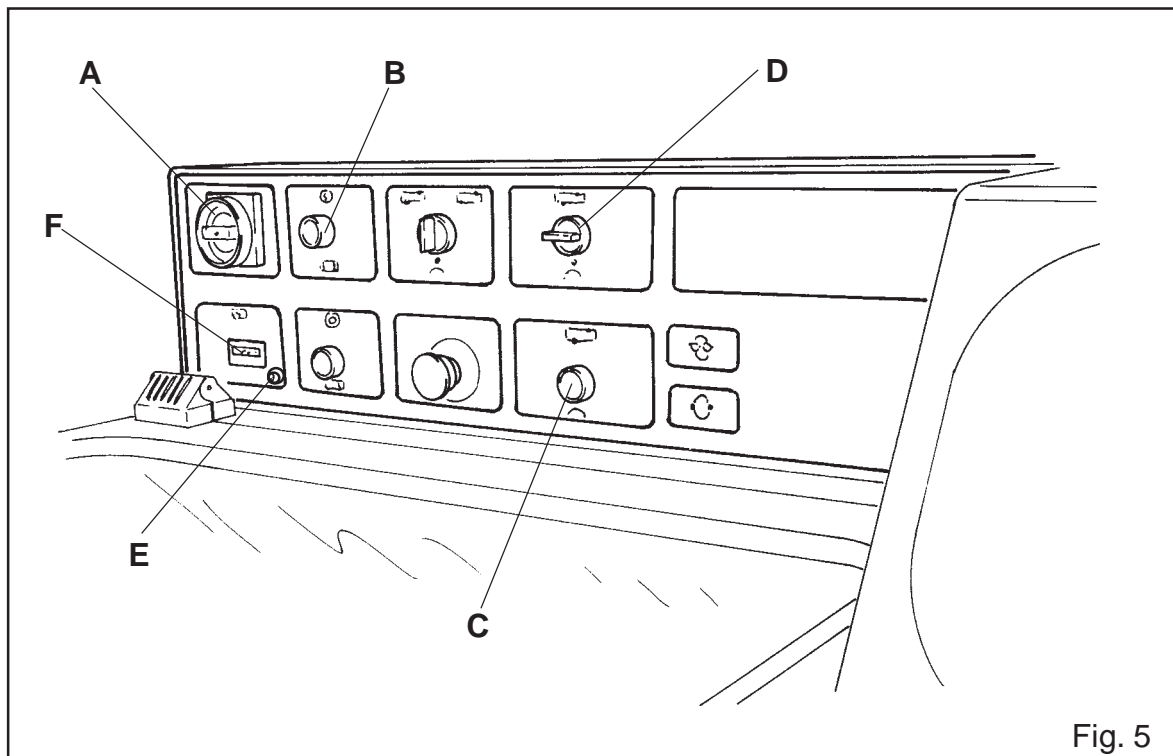

Fig. 5
- Turn switch A (fig.5)
- Press reset button C (fig.5)
After having checked the correct positioning of the bar to be cut, and the correct clamping, turn start selector D (fig.5).